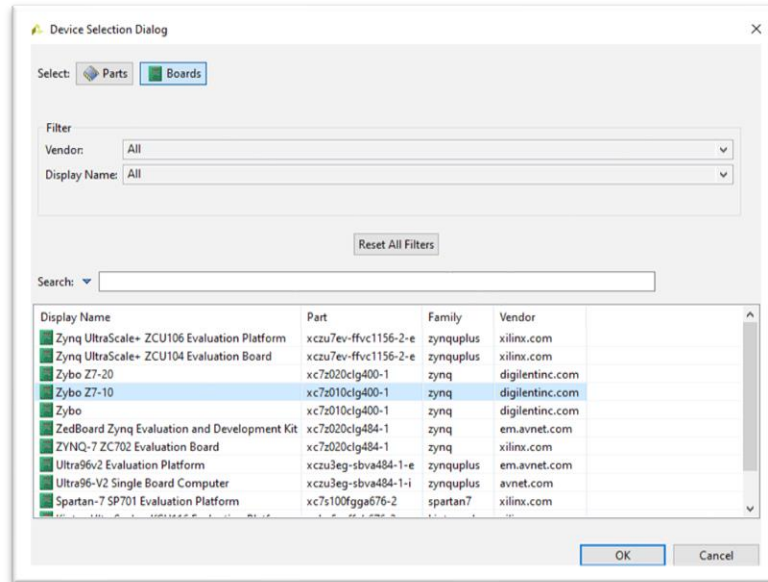

Figure 4: Board selection.
- e) Click on “...” in the Part Selection block, choose “**Boards**”, select “**Zybo-Z7-10**” and click on “**OK**” as shown in Figure 4. If you don’t find “**Zybo-Z7-10**” as an option, please refer to the Lab 0 manual. Choose “**OK**” and “**Finish**” after you are done.